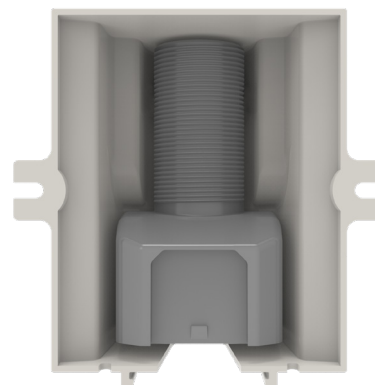

Figure 12: ORION Cellular LTE endpoint orientation
2. Verify the proper orientation (Figure 12). The bottom of the enclosure has an opening for IR programming. The opening gives access to the endpoint IR LED port (Figure 15 and Figure 16) without having to disassemble the unit.
**Cellular endpoints:** Figure 12 shows the correct endpoint placement.